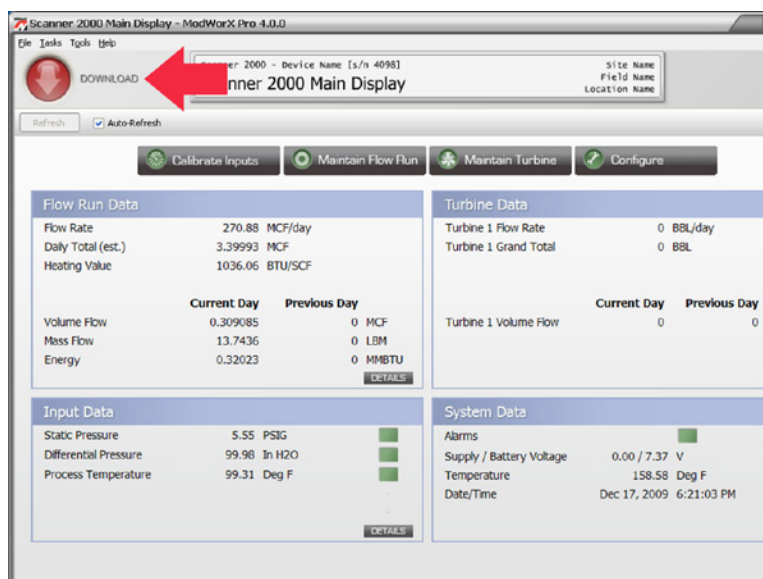

Figure 14.1
1. Press the red **Download** button on the Main Display screen (Figure 14.1).